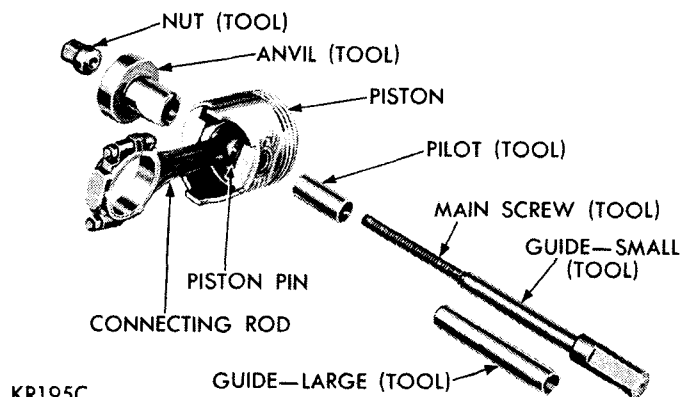
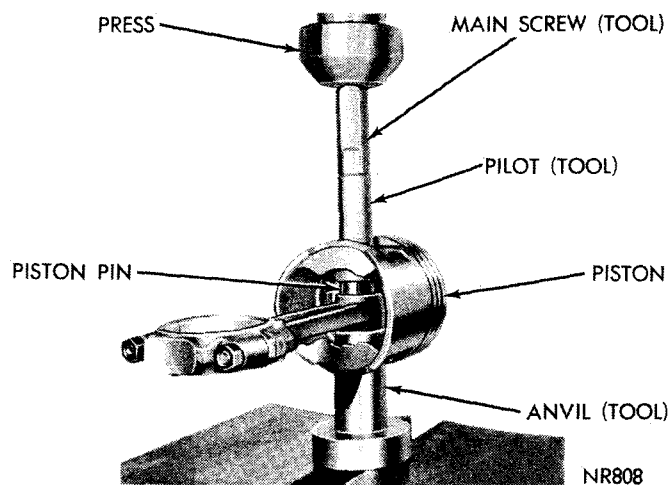
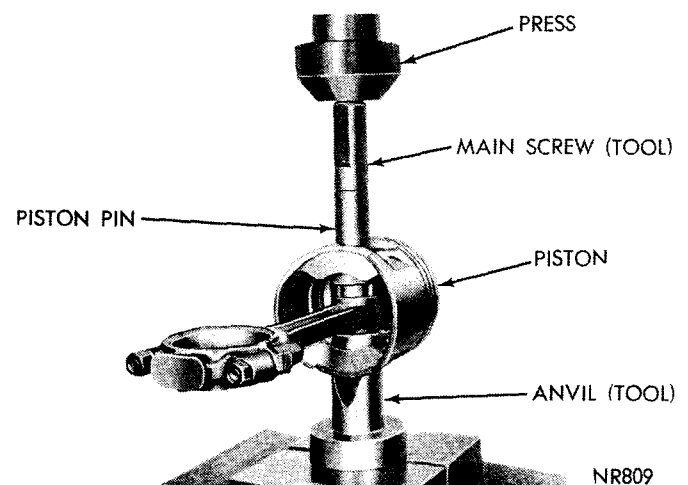

Fig. 36—Arrangement of Tool C-4158 For Removing Piston Pin
Fig. 37—Removing Piston Pin With Tool C-4158
Fig. 39—Installing Piston Pin With Tool C-4158
(1) Select appropriate pilot and anvil shown in chart for use with Tool C-4158.
(2) Arrange Tool C-4158 parts for removal of piston pin, (Fig. 36).
(3) Install pilot on main screw.
(4) Install main screw through piston pin.
(5) Install anvil over threaded end of main screw with small end of anvil against piston boss. Be sure spring is removed from anvil.
(6) Install nut loosely on main screw and place assembly on a press, (Fig. 37).
(7) Press piston pin out of connecting rod. **When pin falls free from connecting rod, stop press to prevent damage to bottom of anvil.**
(8) Remove tool from piston.
(9) Install nut on puller screw to hold assembly together. Place assembly on a press (Fig. 39).
(10) Press piston pin in until pin "bottoms" on the pilot. This will position pin in connecting rod.
(11) To measure pin fit, remove tool and arrange tool parts and piston assembly as shown in (Fig. 36).